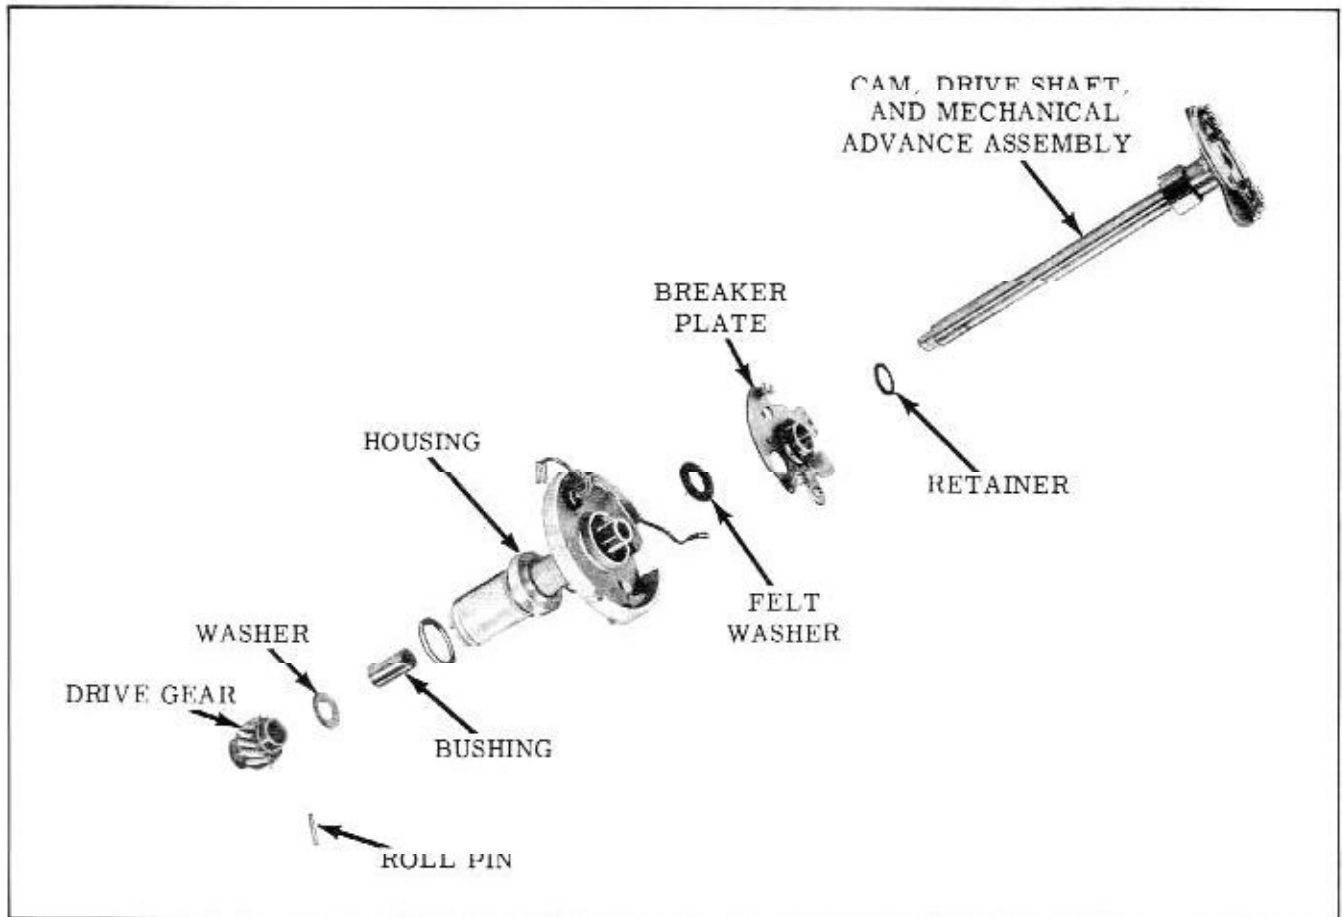

Fig. 13-72 Distributor Assembly
6. Remove the shaft retaining ring from the upper bushing and lift the breaker plate and felt wick from the bushing. (Fig. 13-72)
2. Place the felt wick on the upper bushing, then place the breaker plate over the upper bushing and vacuum advance link. (Fig. 13-72)